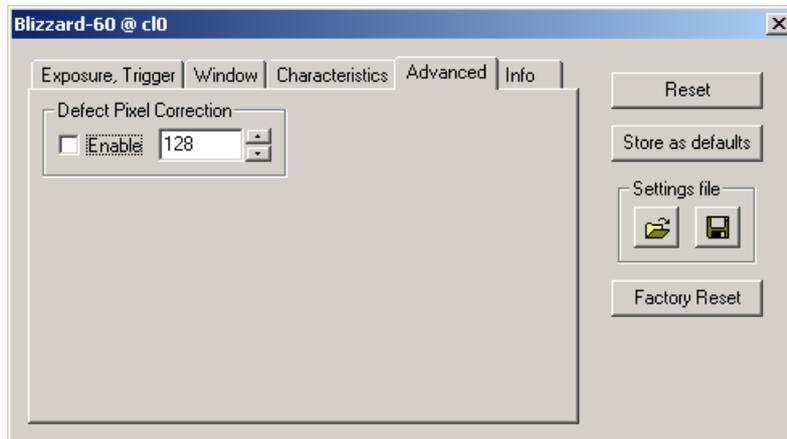

Figure 6.8: Advanced panel
**Defect Pixel Correction** The defect pixel correction can be enabled in this dialog. The configurable value (e.g. 128 in Fig. 6.8) corresponds to the user-defined threshold, that is described in Section 4.2.4.